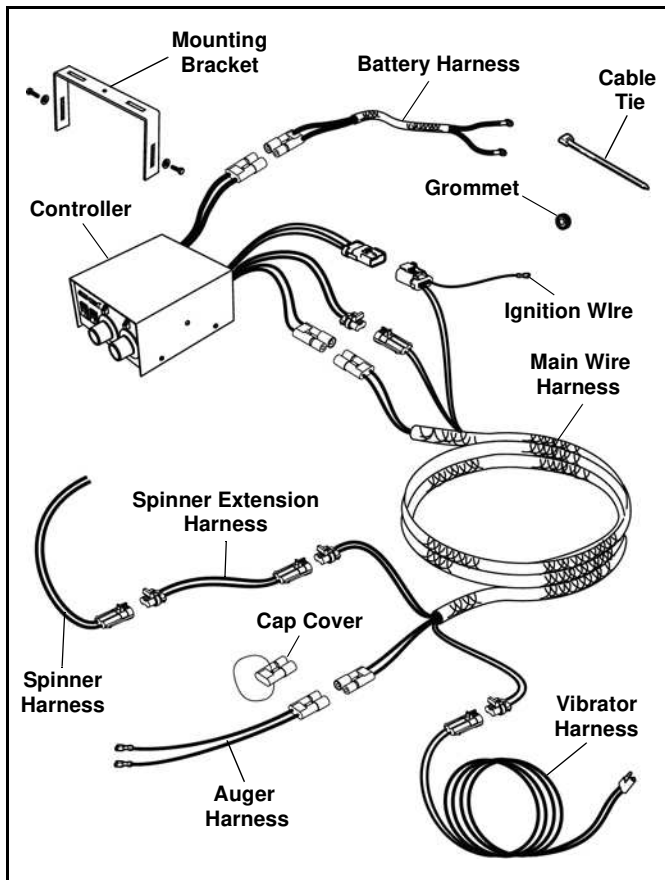

Figure 1-7
1. Locate the following parts (See Figure 1-7):